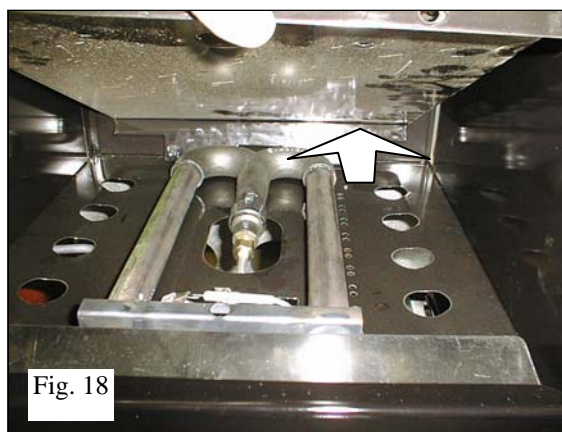

Fig. 18
**Oven orifice** : Remove the base, **CAUTION**: when refitting place the base underneath the groove on the fascia (Figures 18 and 19).